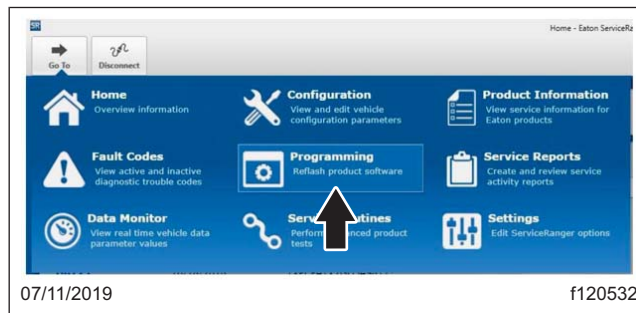

Fig. 6, Selecting the Programming Panel
- 4.4 Go To "Programming." See **Fig. 6**.